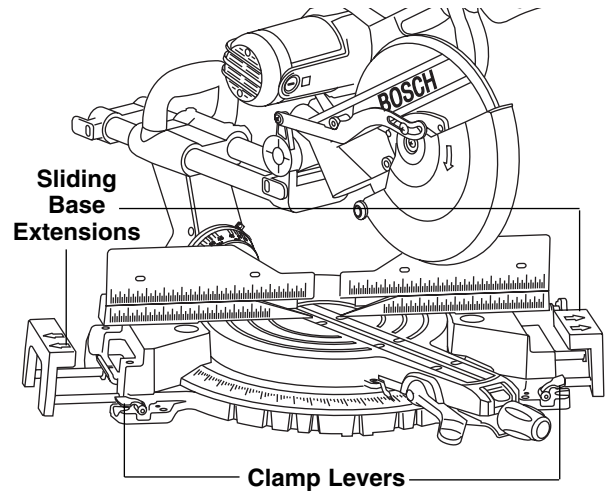

Figure 20. Sliding Base Extensions
**Sliding Base Extensions** – These extensions provide extra workpiece support and are especially useful when cutting long workpieces. To reposition the extensions, simply unlock the Base Extension Clamping Levers, reposition the extensions, and relock the levers (Figure 20). (See also Length Stop on page 27.)